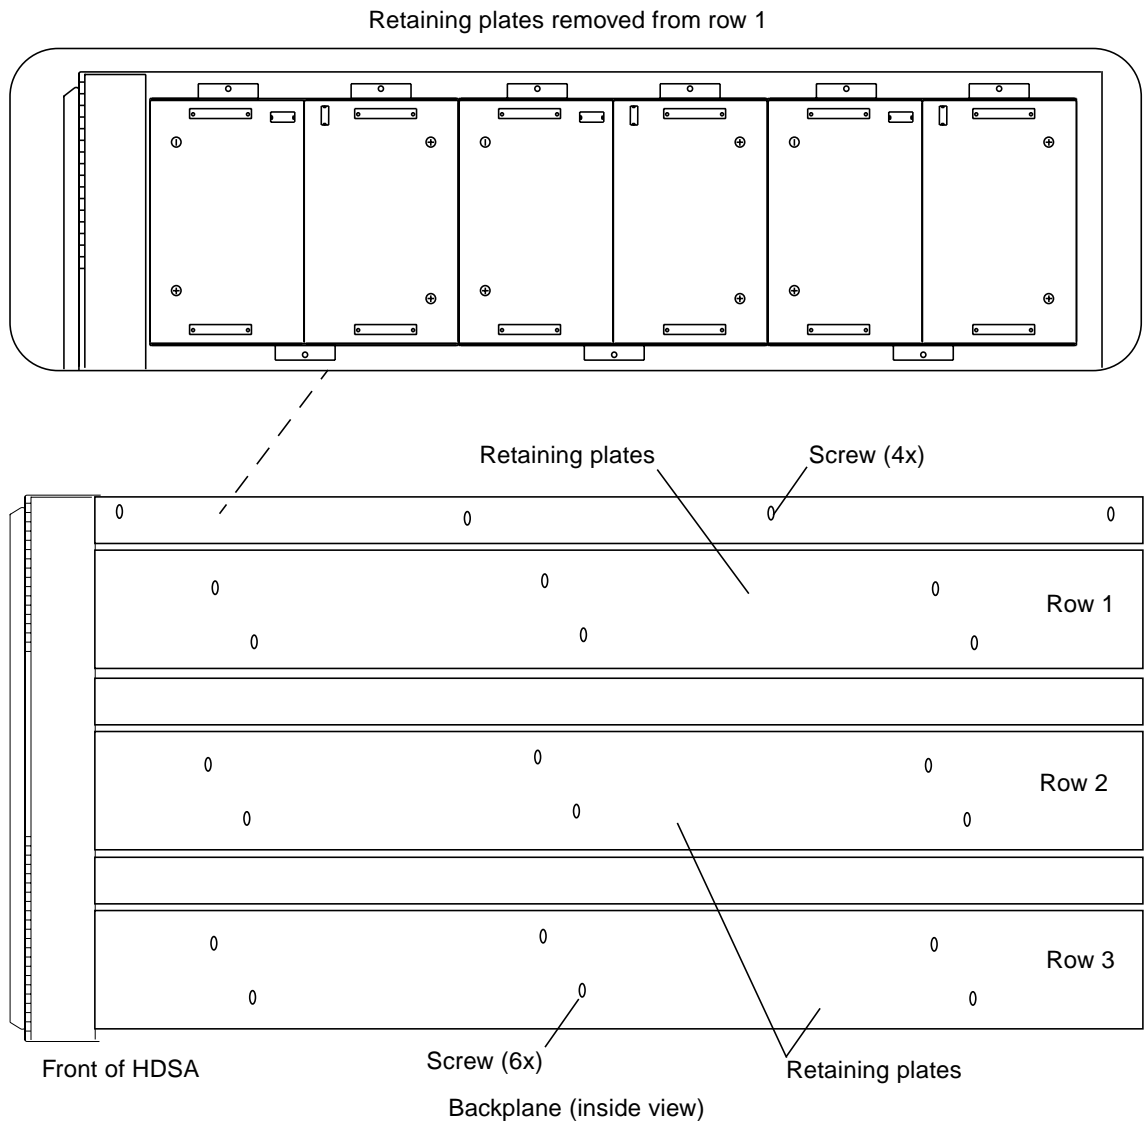

FIGURE 6-36 HDSA, Inside View
2. At the inside (facing the cabinet interior) of the HDSA are two retaining plates per row of three disk drive array chassis. Remove the screws holding the plates and then remove the plates. See FIGURE 6-36.